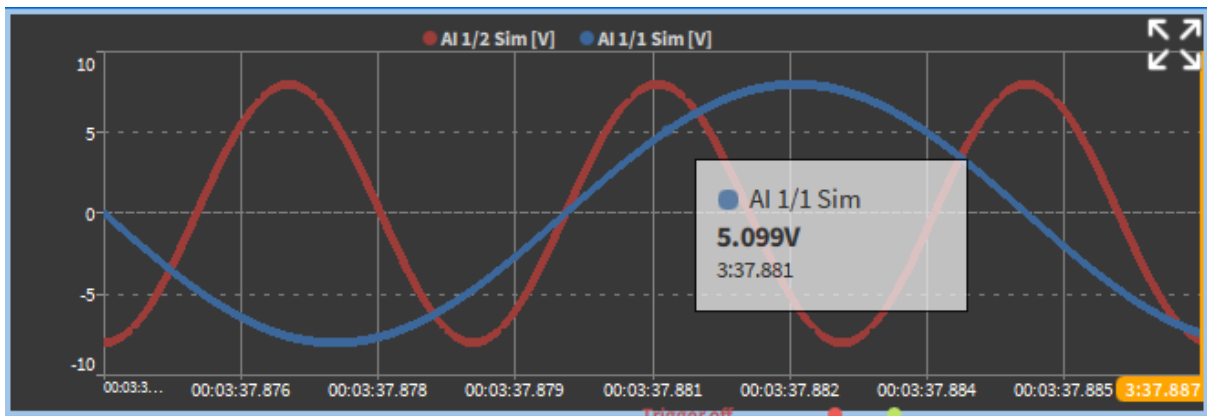

Fig. 8.9: Mouse-over information
- Statistics Data only can optionally be displayed. If *Show data labels* is selected, a window will display the nearest measurement value and time if the mouse is within the recorder (see Fig. 8.9).